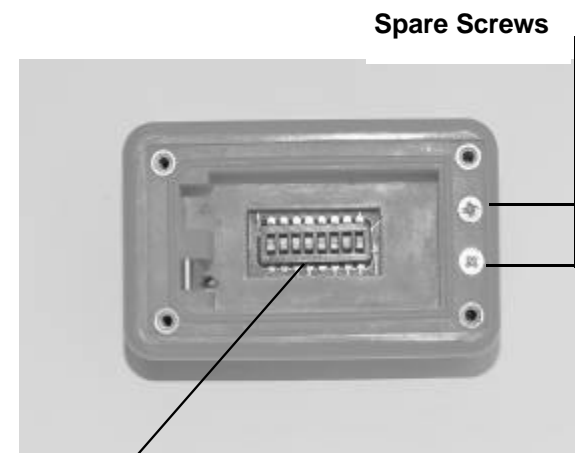

figure 2.
5.) Insert ALKALINE (only) battery, terminal end first, then push on the rear of battery until firmly seated. If you unscrew the switch dial part of the way the battery can be installed straight in. (See figure 2)